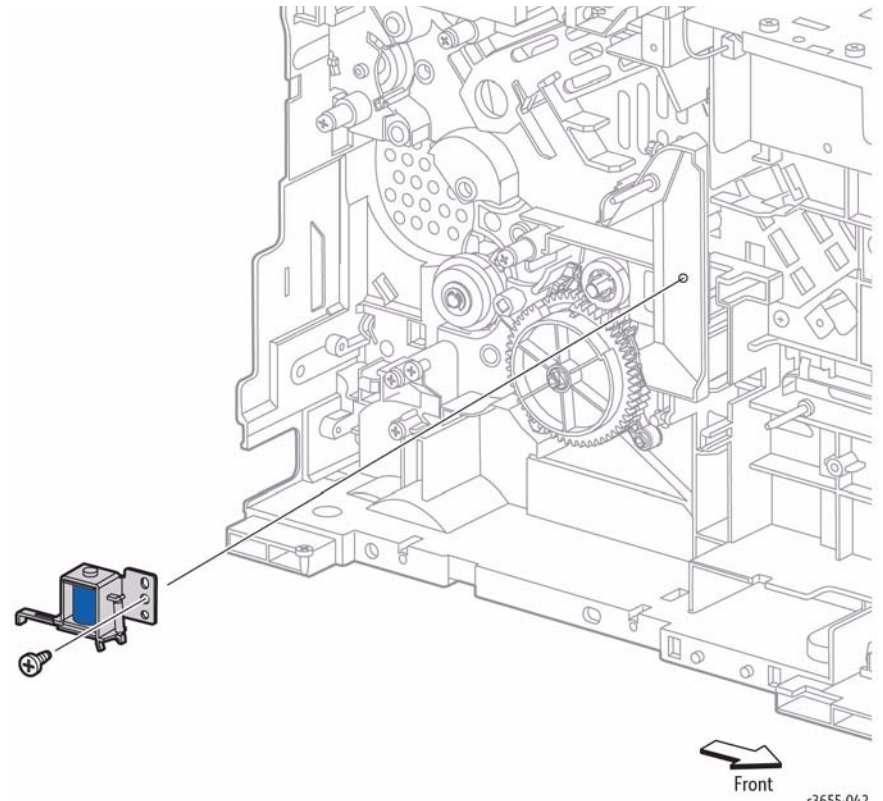

Figure 2 Remove the MSI Solenoid
11. Refer to Figure 2 to locate and remove 1 screw that secures the solenoid to the chassis.